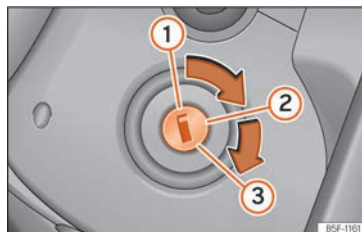

Fig. 82 Ignition lock
- Turn the key to position **»» Fig. 82 ②**.
- Keep turning the key to position **»» Fig. 82 ③** without pressing the accelerator.
- Once the engine starts, release the key. When it is released, the key returns to position **②**.
- Vehicles with ignition locks: Turn the key to position >>> Fig. 82 .
- Vehicles with start buttons: Briefly press the start button >>> Fig. 82.